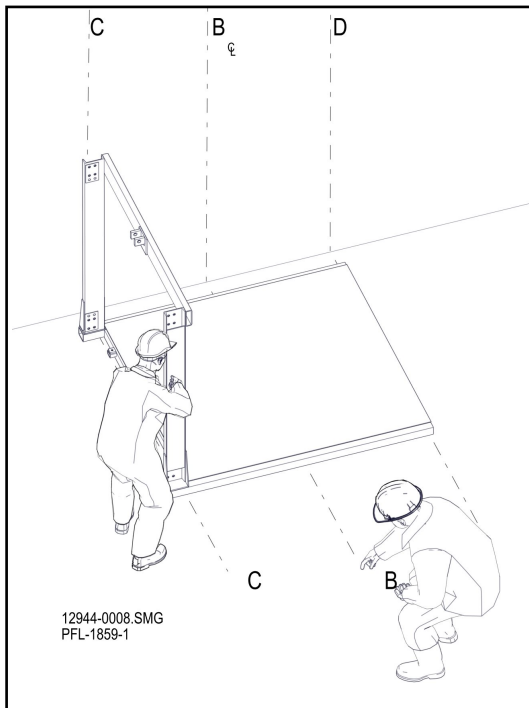

Figure 7
8. See the G/A drawing for orientation of carriage. Align corresponding edge of the carriage with line C, B, and D. See **Figure 7**.